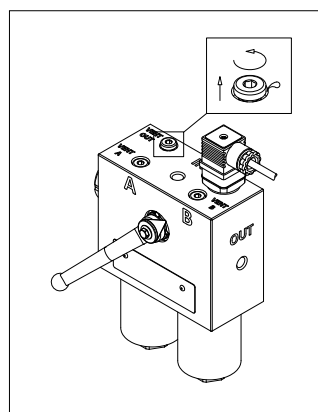

fig. 29
- (Fig. 29) Bleed the air from the system through the “Vent OUT” breather plug loose by a maximum of one turn, until the operating fluid starts oozing